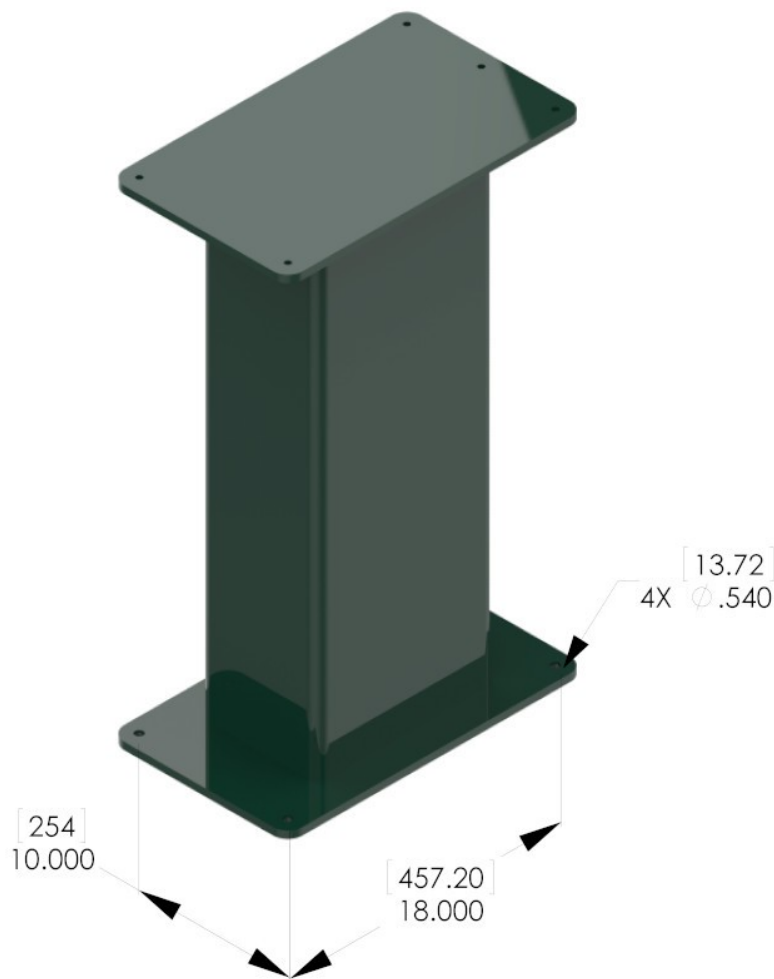
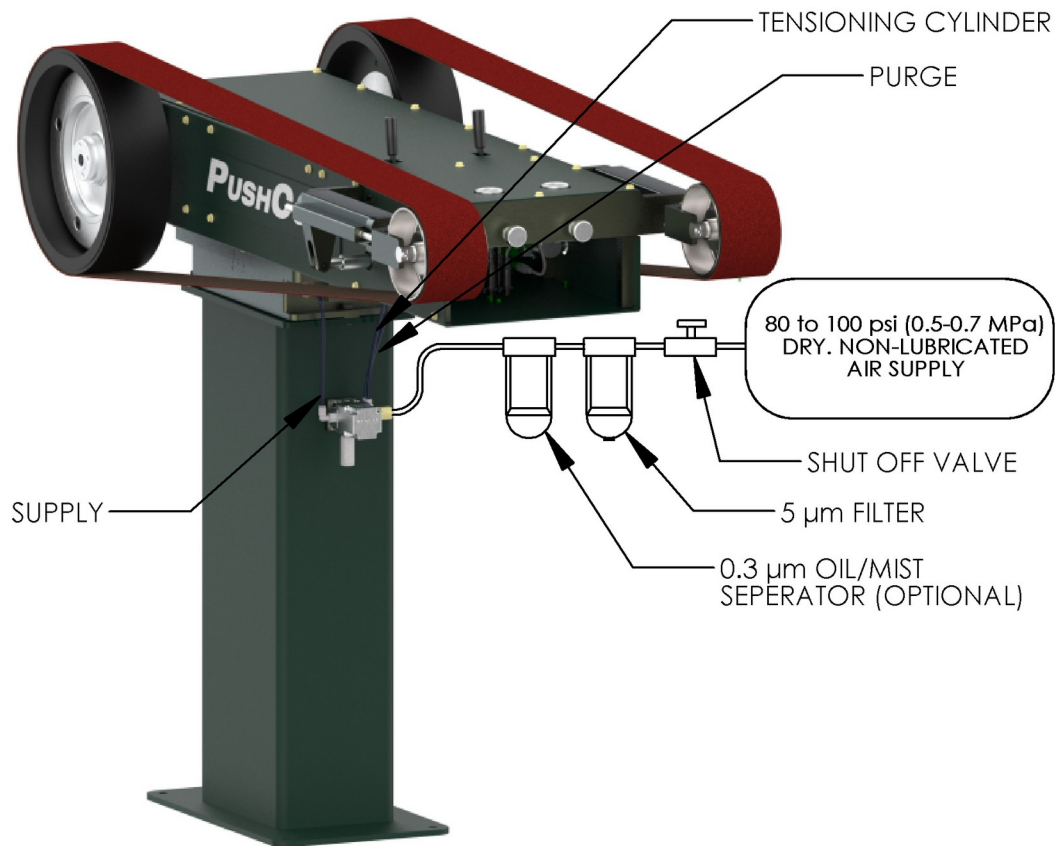

Figure 1. SBS81 Base Plate
Figure 4. Pneumatic configuration
The SBS81 Servo Belt Stand is secured by four (4) fasteners passing through mounting holes located in the Base Plate (See Figure 4). The Base Plate mounting hole locations are shown in Figure 1. The SBS81 must be securely mounted to keep the unit from moving during operation. The unit must be mounted level to achieve the desired force output at the Contact Wheels. A spirit level can be placed on the top of the Belt Stand and shims can be inserted under the Base Plate as required.
The SBS81 uses 1", 2", 3", or 4" wide by 132" long Belt Media. To install new Belt Media, verify the servo motor and robot are disabled, then position the Belt Media Tension Release Lever towards the Contact Wheels of the SBS81, which releases the tension on the Belt Media. Install new Belt Media over the Contact Wheel and the Tracking Wheel as shown in Figure 4. Then tension the Belt Media by positioning the Belt Tension Release Lever to its rearward position. To remove the Belt Media reverse the previous steps.
Proper tension is required for each Belt Media width and type. The Belt Tension Pressure Adjustment Knobs are located at the rear of the machine, see Figure 4. The Belt Media tension should never be adjusted while the machine is operating. Belt Media Tension Pressure Gauges are located on the top of the machine to allow accurate setting of the pressure. The following chart is only a guideline for proper Belt Media tension pressures. The user is responsible for contacting the Belt Media manufacturer for the correct Belt Media tension.